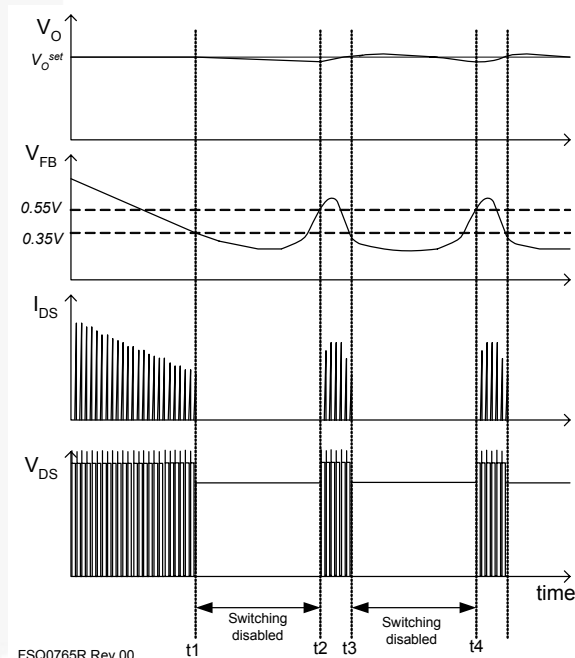

Figure 33. Waveforms of Burst Operation
6. Burst Operation: To minimize power dissipation in standby mode, the FPS enters burst-mode operation. As the load decreases, the feedback voltage decreases. As shown in Figure 33, the device automatically enters burst-mode when the feedback voltage drops below V_{BURL} (350mV). At this point, switching stops and the output voltages start to drop at a rate dependent on standby current load. This causes the feedback voltage to rise. Once it passes V_{BURH} (550mV), switching resumes. The feedback voltage then falls and the process repeats. Burst-mode operation alternately enables and disables switching of the power SenseFET, thereby reducing switching loss in standby mode.